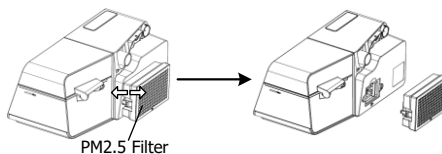

Fig. 18-6
(3) Disassemble the PM2.5 Filter from the device, as shown in Fig. 18-6.